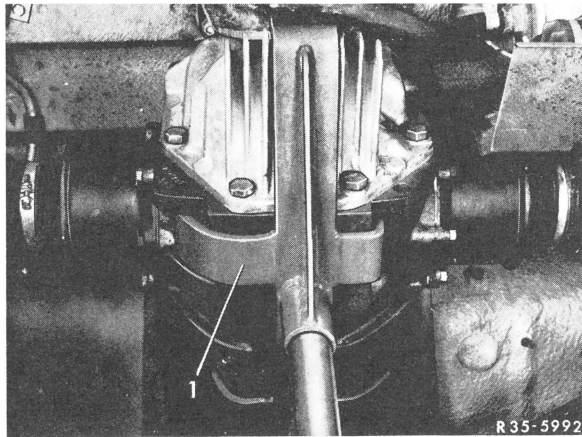

Fig. 1
- Support rear axle housing on vehicle jack top (Fig. 1).